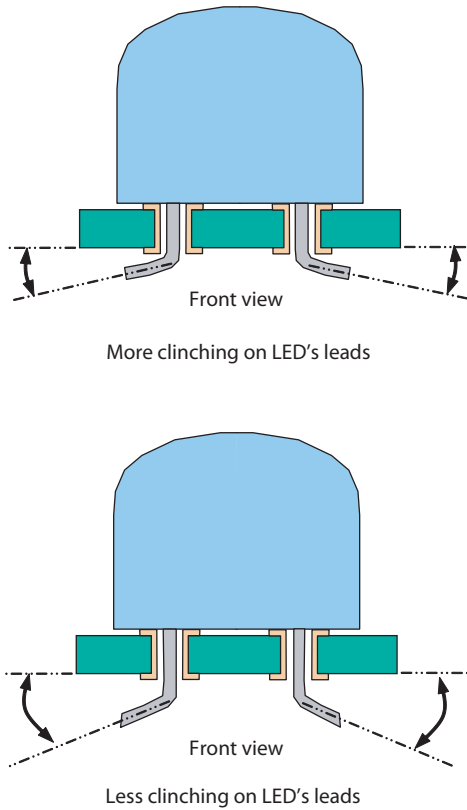

Figure 3. Less clinching can help to reduce mechanical stress experienced by the LED
- 3) Mechanical stress experienced by the epoxy during the lead clinching process is higher as the LED body is closer to the PCB. Clinching should be minimized to reduce the stress as shown in Figure 3.